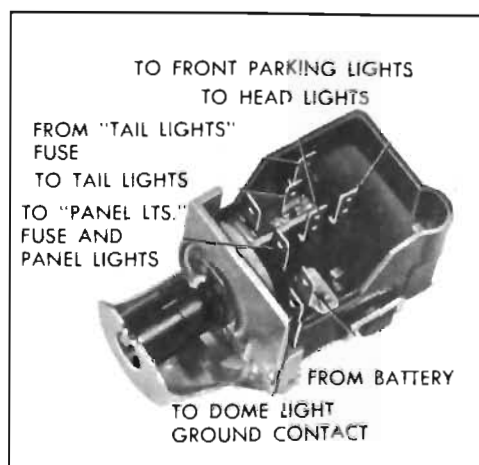

Figure 10-49—Light Switch
be tested by connecting a low reading voltmeter between the wire supplying current to the contact and the wire conducting current away. This must be done with the switch in a position where the contact under test is closed. See Figure 10-49.
2. With switch on, connect the headlight terminal of lighting switch and the negative post of battery. See Figure 10-49.